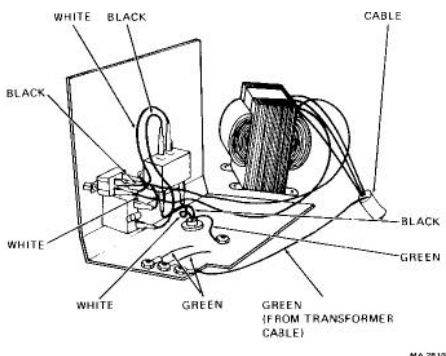

Figure 3-15 Transformer Assembly Wiring Diagram
6. Reverse steps 1 through 5 to replace the transformer assembly. Figure 3-15 shows the interconnecting wiring between the transformer assembly components.